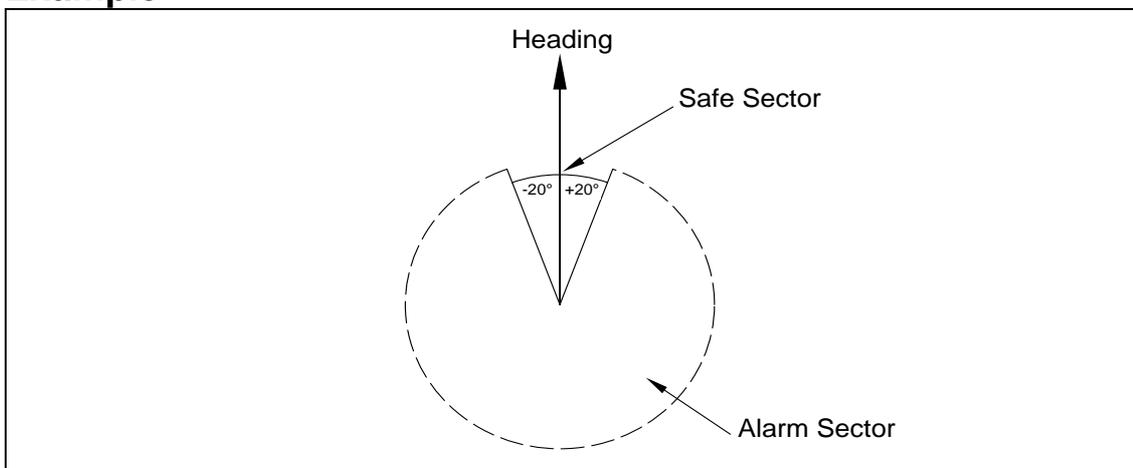

Fig 2.2 - Sector Alarm
**SECTOR ALARM** - This is generated when the value of a function leaves the safe sector as shown in Fig 2.2.